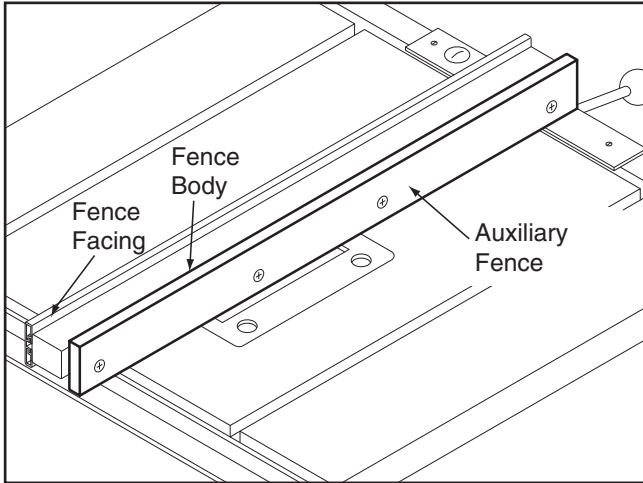

Figure 56. Auxiliary fence.
4. Thread the flat head screws through the auxiliary fence and into the hex nuts in the standard fence body, and tighten securely as shown in **Figure 56**.